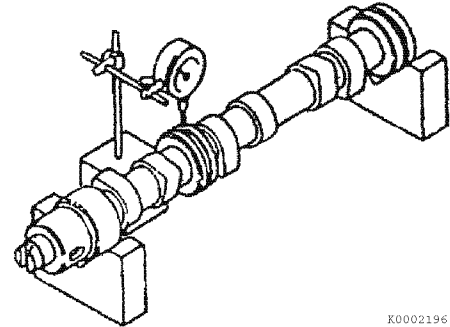

Figure 6-79
1. Use V-blocks and a dial indicator to check camshaft bend (Figure 6-79). Place the indicator on the center bearing journal.